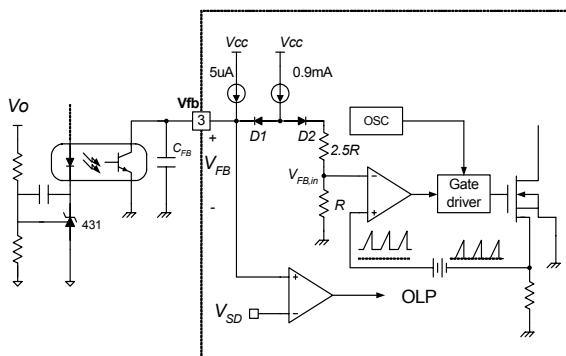

Figure 5. Pulse Width Modulation (PWM) Circuit
**2. Feedback Control** : The FSDx0265RN employs current mode control, as shown in Figure 5. An opto-coupler (such as the H11A817A) and shunt regulator (such as the KA431) are typically used to implement the feedback network. Comparing the feedback voltage with the voltage across the Rsense resistor plus an offset voltage makes it possible to control the switching duty cycle. When the KA431 reference pin voltage exceeds the internal reference voltage of 2.5V, the optocoupler LED current increases, the feedback voltage Vfb is pulled down and it reduces the duty cycle. This event typically happens when the input voltage is increased or the output load is decreased.
**4.4 Over Voltage Protection (OVP) :** In the event of a malfunction in the secondary side feedback circuit, or an open feedback loop caused by a soldering defect, the current through the opto-coupler transistor becomes almost zero (refer to Figure 5). Then, VFB climbs up in a similar manner to the over load situation, forcing the preset maximum current to be supplied to the SMPS until the over load protection is activated. Because excess energy is provided to the output, the output voltage may exceed the rated voltage before the over load protection is activated, resulting in the breakdown of the devices in the secondary side. In order to prevent this situation, an over voltage protection (OVP) circuit is employed. In general, Vcc is proportional to the output voltage and the FPS uses Vcc instead of directly monitoring the output voltage. If VCC exceeds 19V, OVP circuit is activated resulting in termination of the switching operation. In order to avoid undesired activation of OVP during normal operation, Vcc should be properly designed to be below 19V.